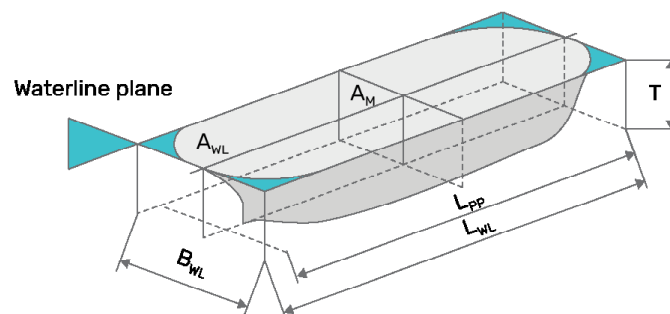

Figure 4: Hull coefficients
- The hull coefficients, illustrated in Figure 4, quantify the fullness of the hull form in various dimensions. These coefficients affect design considerations for stability, speed, and fuel efficiency.